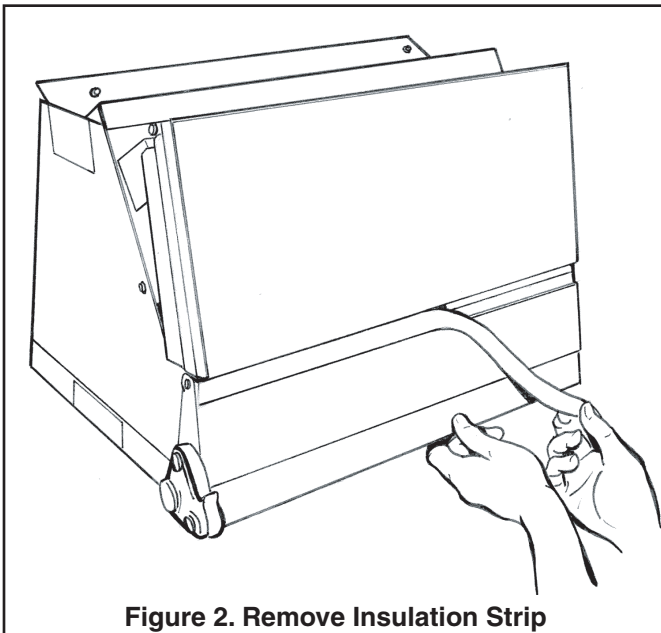

Figure 2. Remove Insulation Strip
1. The horizontal drip tray should be removed *for maximum efficiency*. See Figures 2, 3 and 4.
- b. Remove the 1" insulation strip covering the lip of the drip pan. See Figure 2.